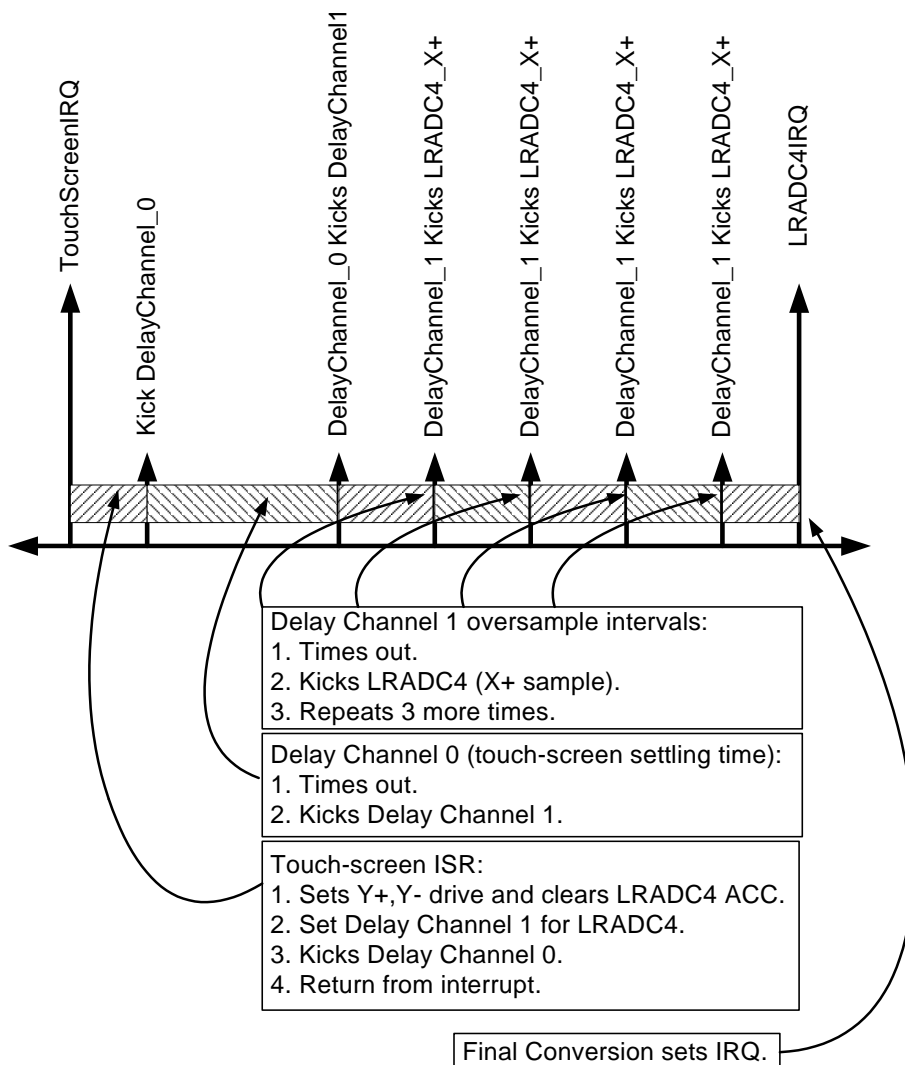

Figure 131. Using Delay Channels to Oversample a Touch-Screen
- Delay Channel 0 is set to delay 1 ms with LOOP_COUNT = 0, i.e., one time. Its TRIGGER_DELAYS field is set to trigger Delay Channel 1 when it times out. The ISR routine kicks off Delay Channel 0 immediately before it does its return from interrupt. Another interrupt (LRADC4_IRQ) is asserted once the entire 4x oversample data capture is complete. A sample timeline for such a sequence is shown in Figure 131.